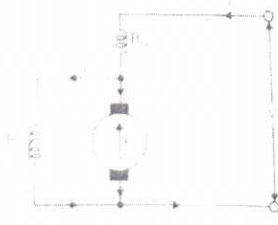
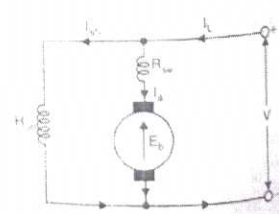

Fig. 18.6. Short-Shunt Connection
Fig. 18.7. Long-Shunt Connection
- (iii) compound-wound motor which has two field windings, one connected in parallel with the armature and the other in series with it. There are two types of compound motor connections. When the shunt field winding is directly connected across the armature terminals (See Fig. 18.6) it is called short-shunt connection. When the shunt field winding is so connected that it carries the series combination of armature and series field (See Fig. 18.7) it is called long-shunt connection.